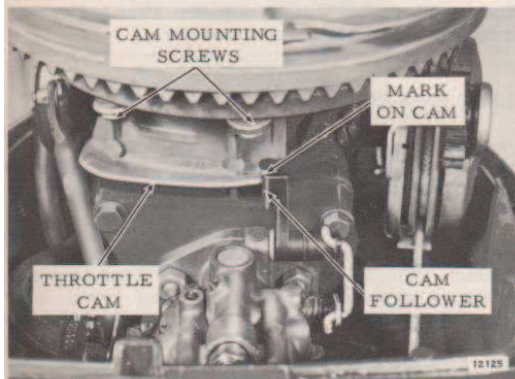

Figure 3-15. Throttle Cam Adjustment
- The timing mark on the cam and the leading (starboard) edge of the cam follower should now be aligned. See Figure 3-15.
- If the adjustment is not correct, loosen the cam mounting screws and set the cam so that, with the play out of the linkage, the throttle valve is closed. Mark on throttle cam must be directly behind rounded starboard edge of cam follower just as throttle begins to open. See Figure 3-15.